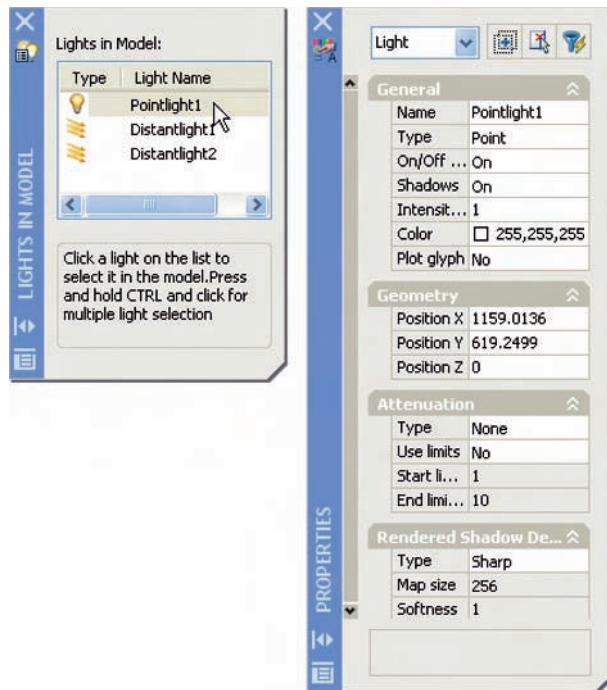

Fig. 16.18 The **LIGHTS IN MODEL** and **PROPERTIES** palettes
- When the model has been rendered if a light requires to be changed in intensity, shadow, position or colour, *click* the **Light List** icon in the **Render** toolbar and the **LIGHTS IN MODEL** palette appears. *Click* a light name and the **PROPERTIES** palette for the light appears in which modifications can be made (Fig. 16.18). Make amendments as thought necessary.